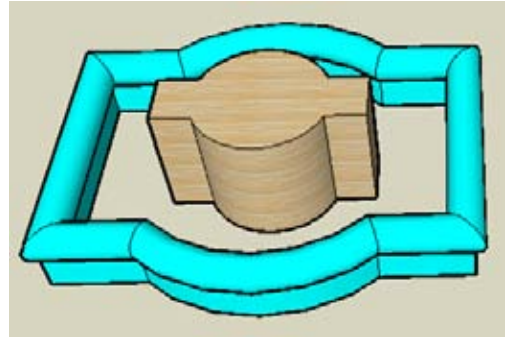

Figure 2-47
7. Use the new offset face for the Follow Me path, and try Follow Me again. This time, the results look great (Figure 2-47).